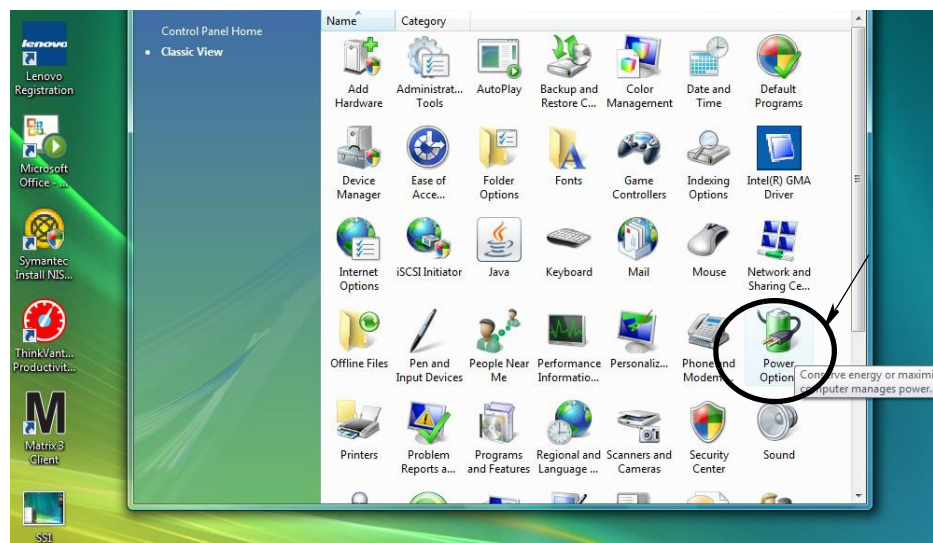

FIG. 33
2. Select the Power Options Icon (FIG. 33).